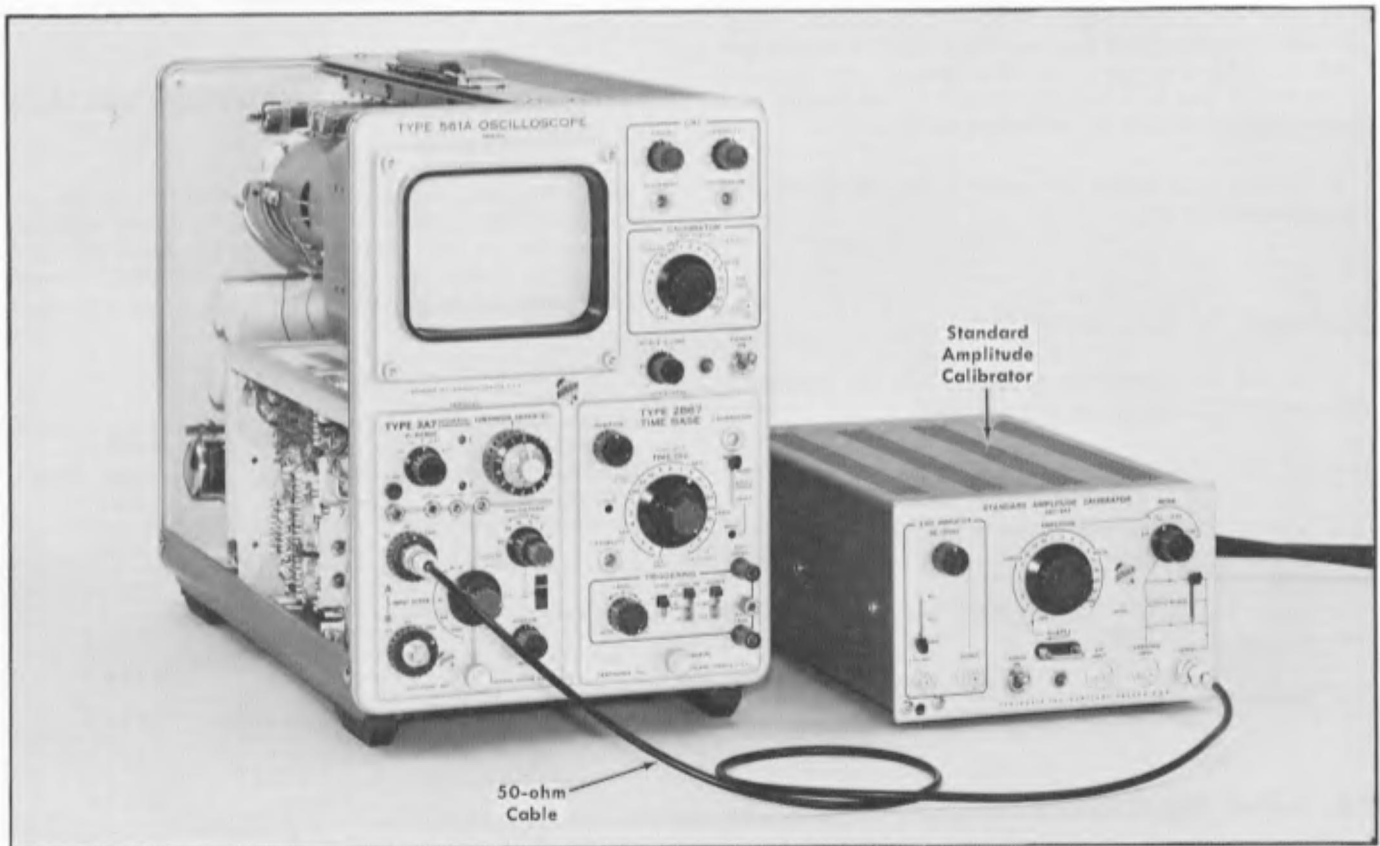

Fig. 5-14. Setup at completion of step 13c.
c. Apply a 5 mV peak-to-peak 1-kHz calibrator signal through a coaxial cable to the A input connector. If possible, use an accurate calibration signal source. Fig. 5-14 shows the setup.
a. Using the same setup as shown in Fig. 5-14, check all the MILLIVOLTS/DIV switch positions for proper calibrated vertical-deflection factors. Use Table 5-3 as a guide. For all positions except the 1 mV/div position, the display amplitude tolerance should be within $\pm 3\%$ plus the tolerance of the amplitude calibrator output.